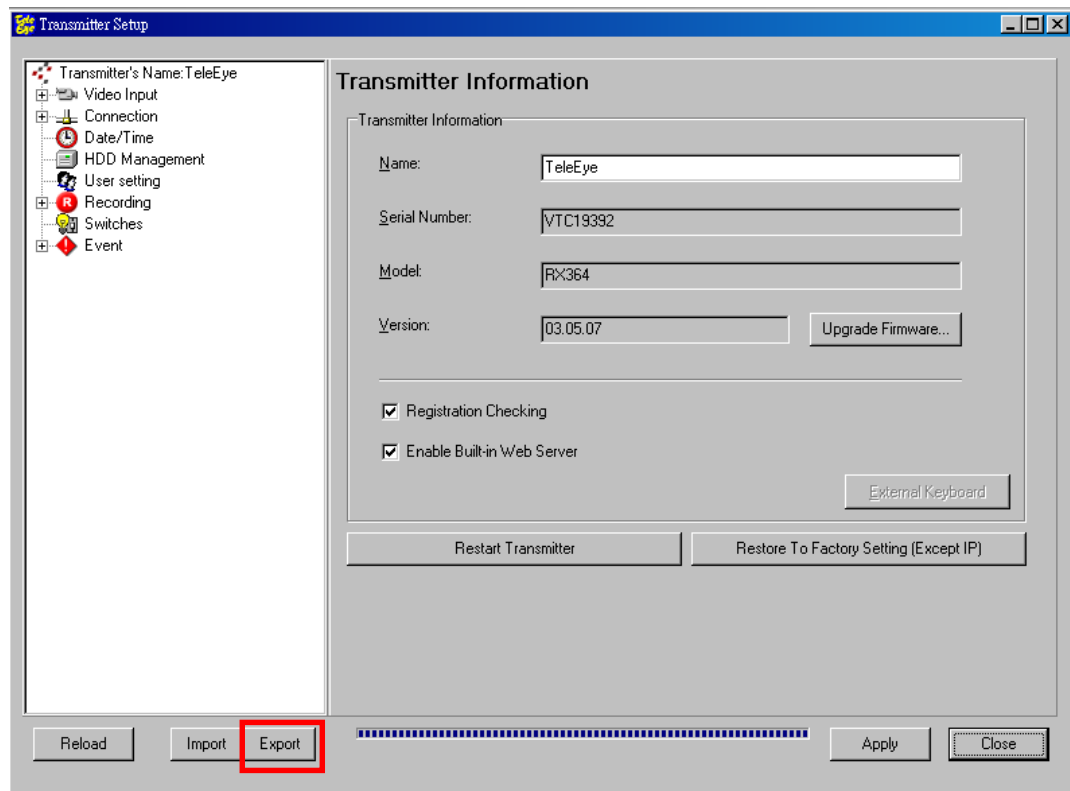

Fig 4.11a
Step 1 : Click [**Transmitter Settings**] icon on the main panel and input the administrator password to pop up {**Transmitter Settings**} panel as shown on **Fig 4.11a**. Press [**Export**] button to do the export setting backup.